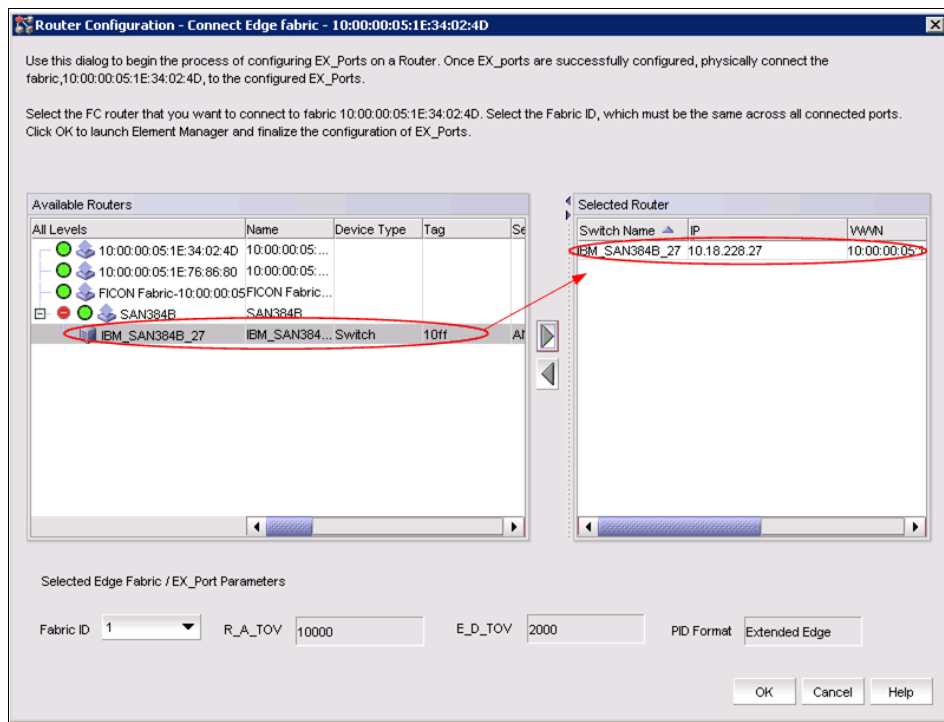

Figure 9-24 Connect Edge Fabric, selecting Backbone and FID
3. Select the FC router from Available Routers table. Click the right arrow to move the FC router you selected to the Selected Router table, as shown in Figure 9-24.